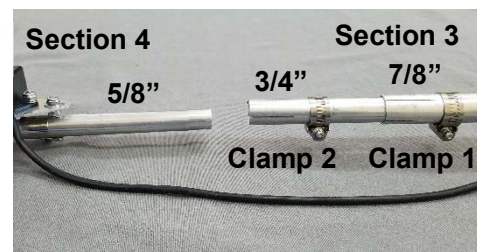

FIGURE 135
STEP 18.3 Remove tape from control cable on the 3/4" tube. Loosen clamp 1 at end of section 3 and also clamps 2 at end of section 4. Slide the 3/4" tube into the 7/8" tube end of section 3, until tube stops. There should then be a gap end opening between the 3/4" tube and section 4 5/8" tube, as shown in **FIG. 135**. Place section 4 near section 3 and avoid excess bending of the black connecting control cable. **When transporting, the bending radius of black control cable should be greater than 1.5"**.